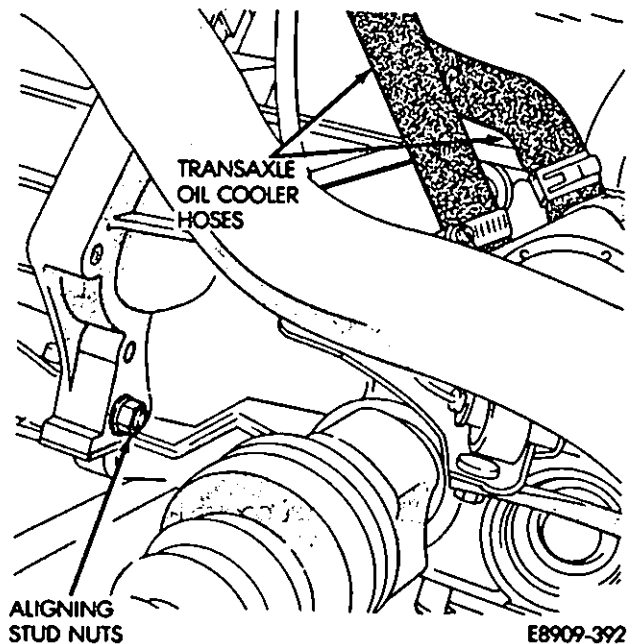
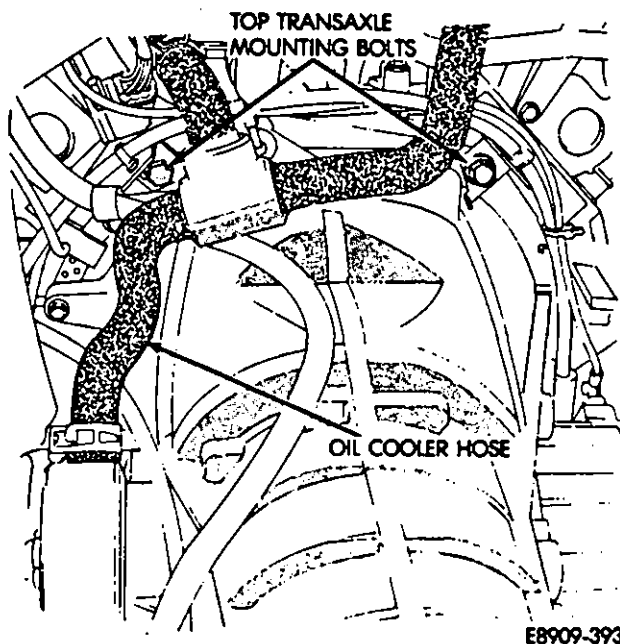

Fig. 23—Oil Cooler Hoses/Aligning Stud Nuts
Fig. 24—Top Transaxle Mounting Bolts
(8) Disconnect transaxle oil cooler hoses (Fig. 23).
(9) Disconnect the transmission kick-down cable at the throttle body (refer to Group 21, Transaxle, for the proper procedure).
(10) Remove the top transaxle mounting bolts (Fig. 24) and the lower nuts from the aligning studs (Fig. 23).
(11) Remove the engine from the transaxle.